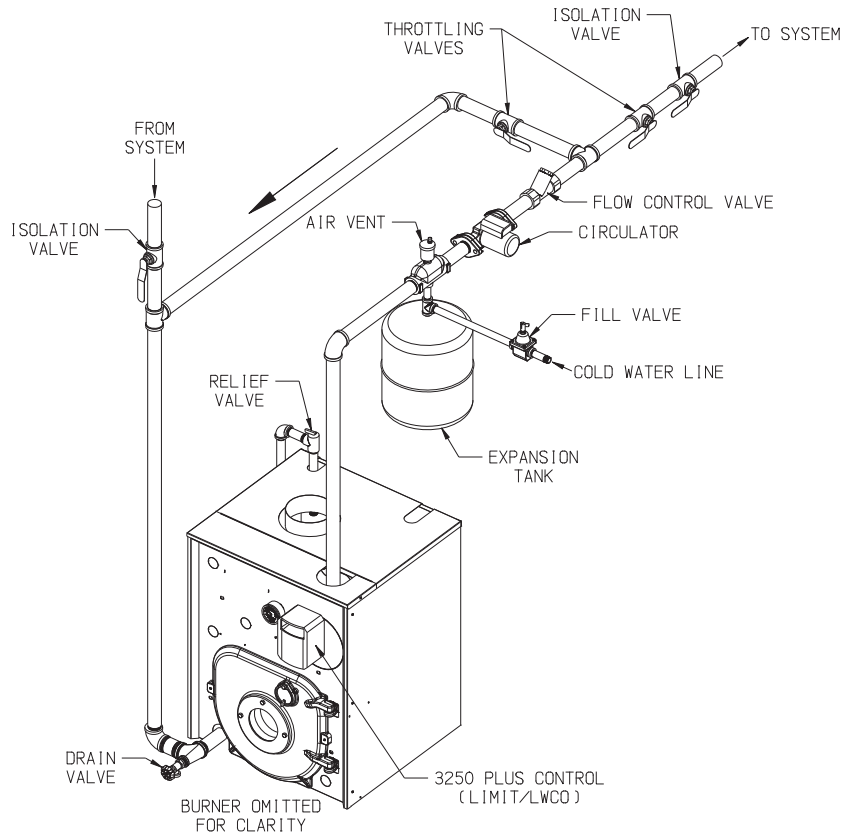

FIGURE 8.3: BOILER BYPASS PIPING
- 2) Large Water Volume Systems - The piping shown in Figure 8.3 will minimize the amount of time that the boiler operates with return temperatures below 120°F on these systems. A bypass is installed as shown to divert some supply water directly into the return water. The bypass pipe should be the same size as the supply. The two throttling valves shown are adjusted so that the return temperature rises above 120°F during the first few minutes of operation. A three-way valve can be substituted for the two throttling valves shown.